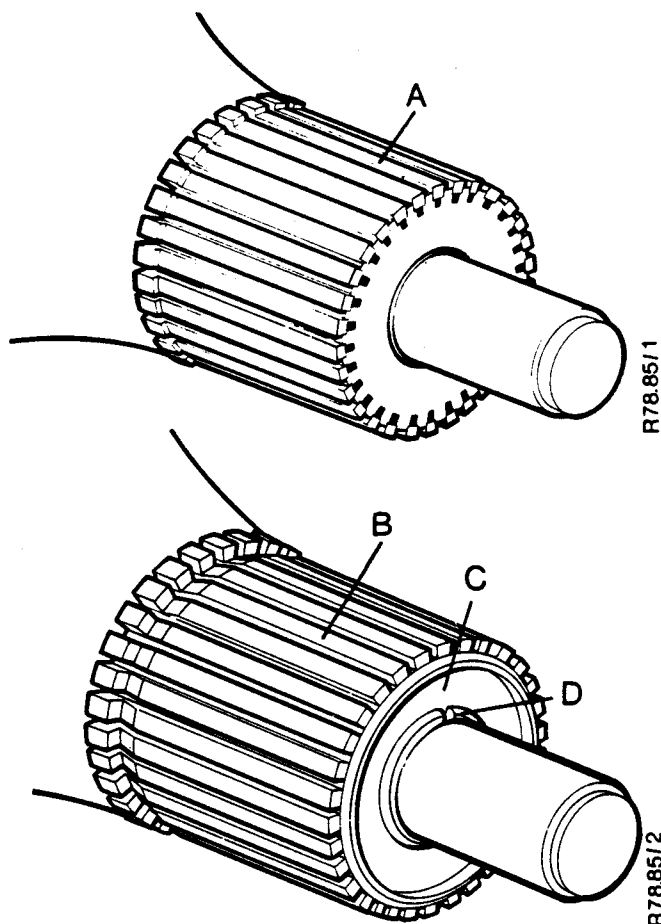

Figure H50
6. If the damage is deep, a lathe can be used to remove the damage. First check what type of commutator is used, fabricated or moulded, see Figure H50.